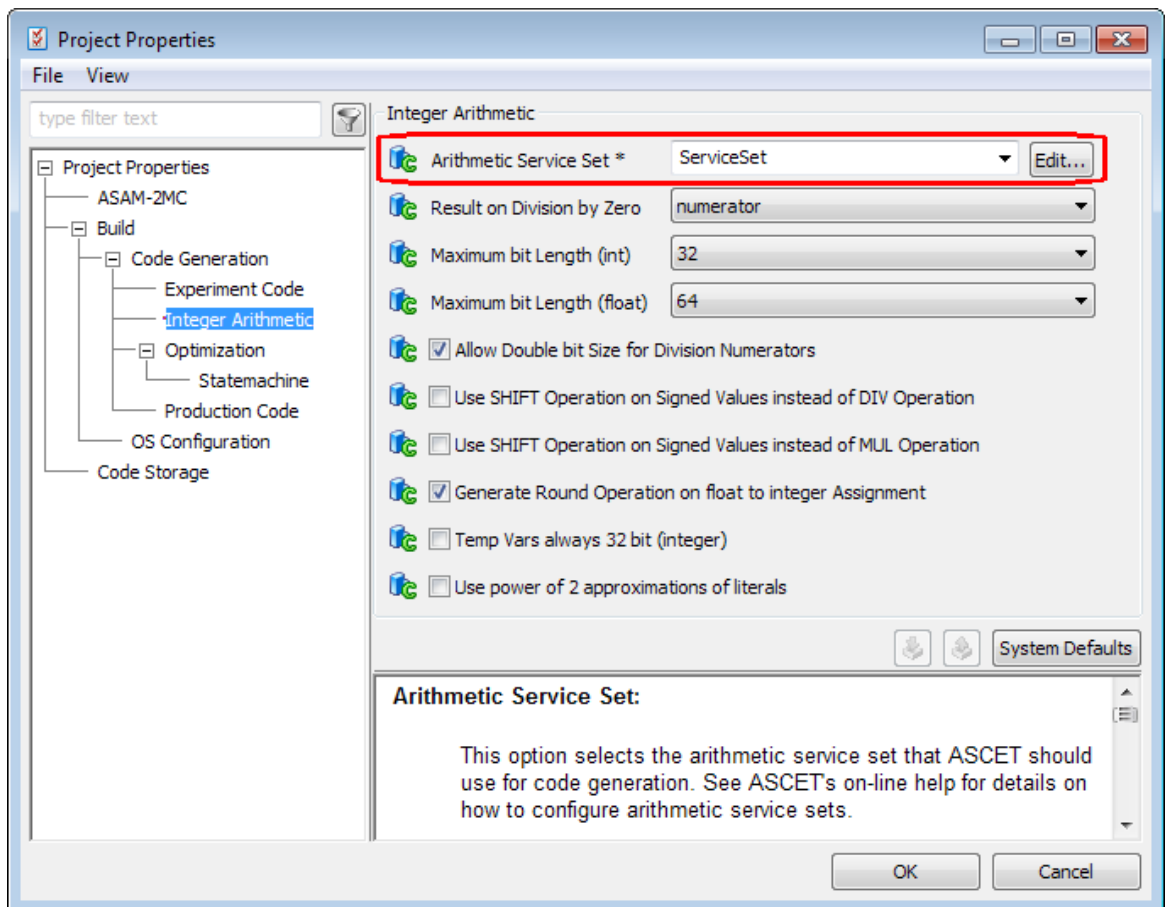

Figure 7.4: Selecting the service set in ASCET
- In the "Arithmetic Service Set" combo box (see also Figure 7.4 on page 58), select the service set you want to use.